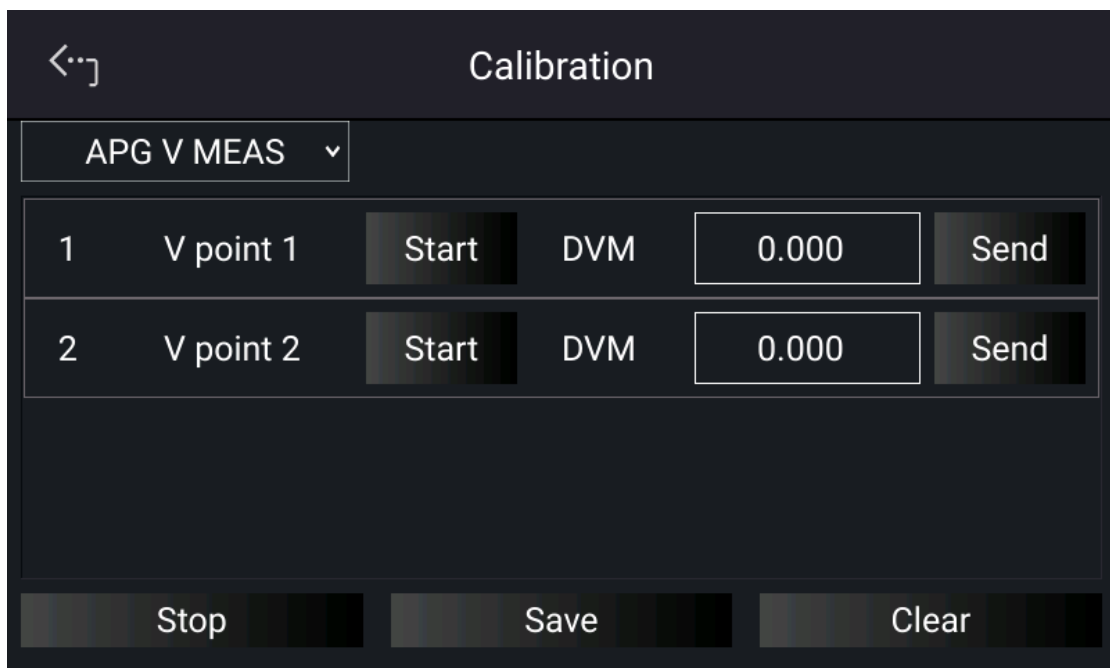

Figure 3-91
1. On the Calibration page, tap “Host V” to select APG V MEAS and list the APG voltage calibration items as shown in Figure 3-91.